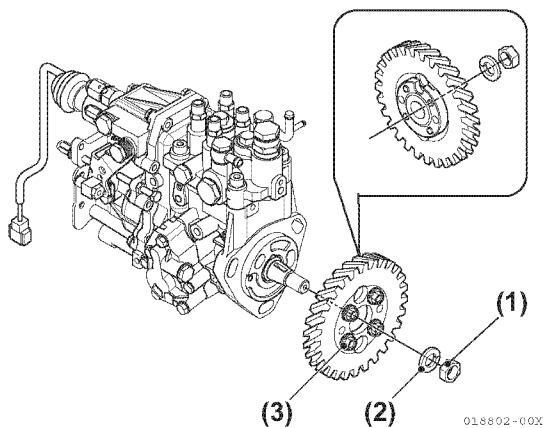

Figure 6-59
- Do not loosen or remove the four bolts (**Figure 6-59, (3)**) retaining the pump drive gear to the hub. Only remove the single drive gear nut (**Figure 6-59, (1)**) and washer (**Figure 6-59, (2)**), leaving the hub attached to the gear.
- Hold the gear train using a large socket wrench on the crankshaft pulley nut. Loosen the fuel injection pump drive gear retaining nut (**Figure 6-59, (1)**) and turn it out to the end of the fuel injection pump shaft.